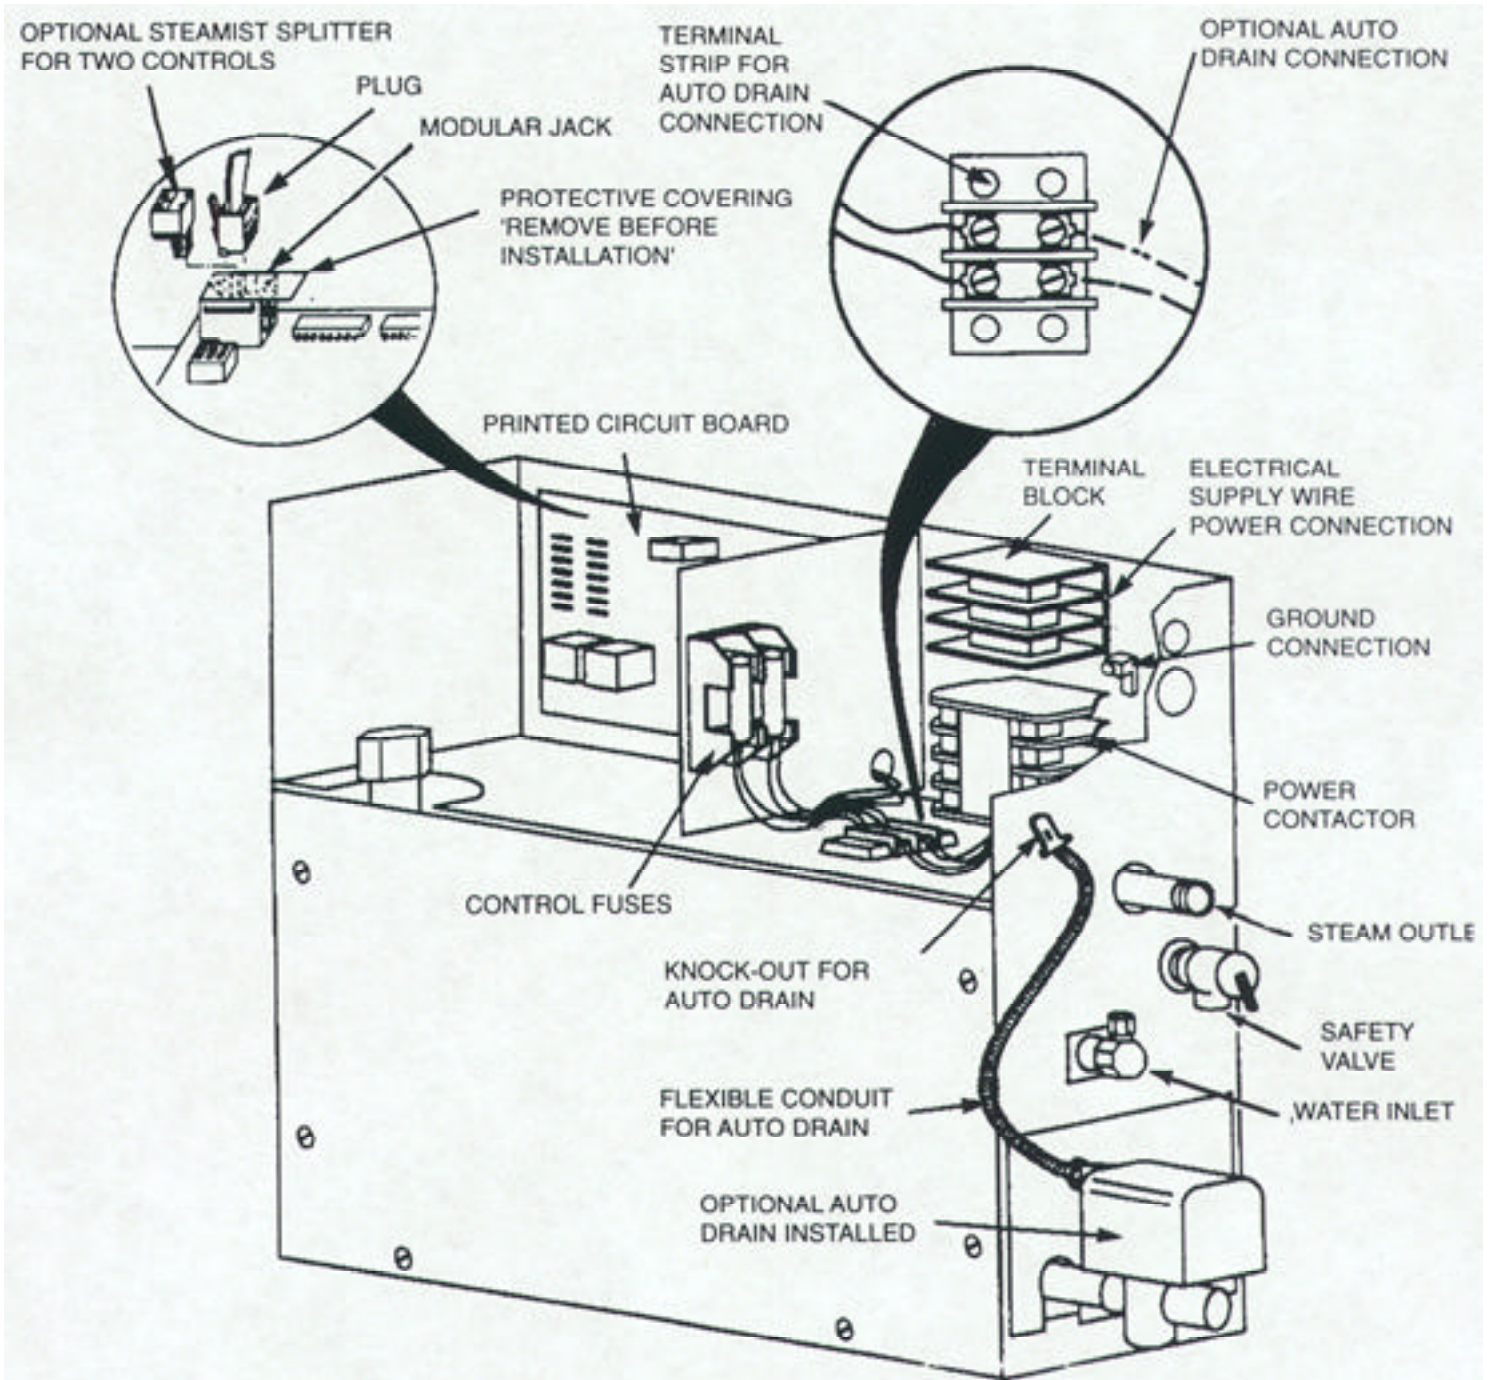

Figure 2: Major Electrical Components
- Connect two wires from valve to the two place terminal strip provided (See Figure 2).